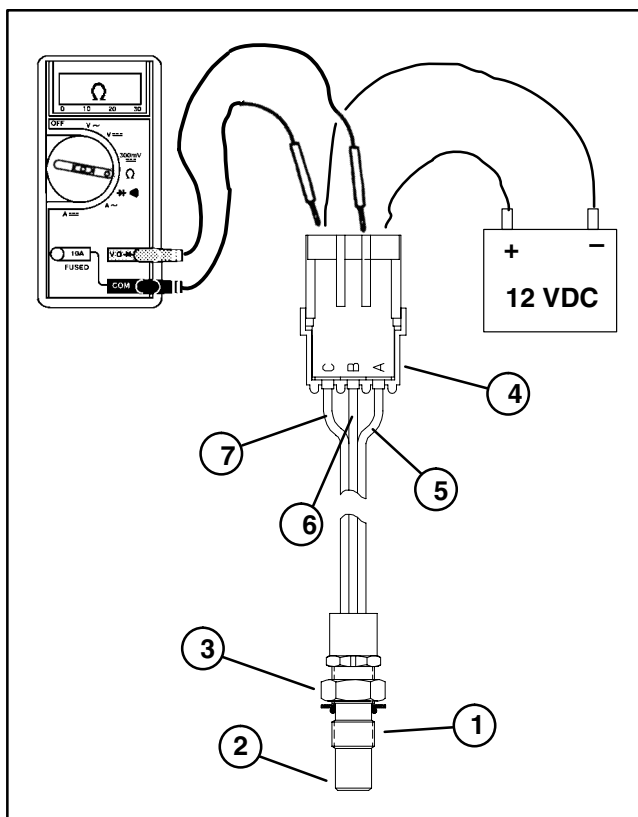

Figure 22
2. Using a multimeter, connect the positive meter test lead to the sensor connector white wire (terminal B) and the negative meter test lead to the connector black wire (terminal C) (Fig. 22). Set multimeter to ohms setting.
3. Using jumper wires, apply +12 VDC to the sensor connector red wire (terminal A) and ground the connector black wire (terminal C) (Fig. 22).